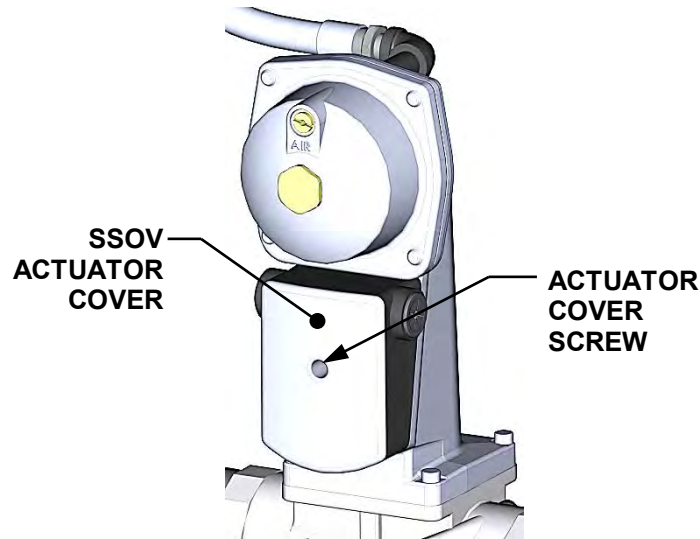

Figure 6-5: SSOV Actuator Cover Location
4. Remove the cover from the SSOV by loosening the screw shown in Figure 6-5. Lift off the cover to access the terminal wiring connections.